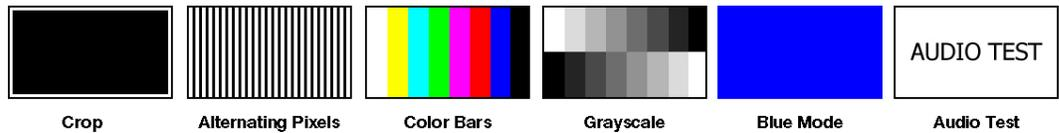

Figure 56. Available Test Patterns
From the Resolution drop-down menu (see figure 56, ①), select the applicable output resolution.
On the Switch Transitions panel (see figure 56, 4, on the previous page), select one of the following radio buttons: